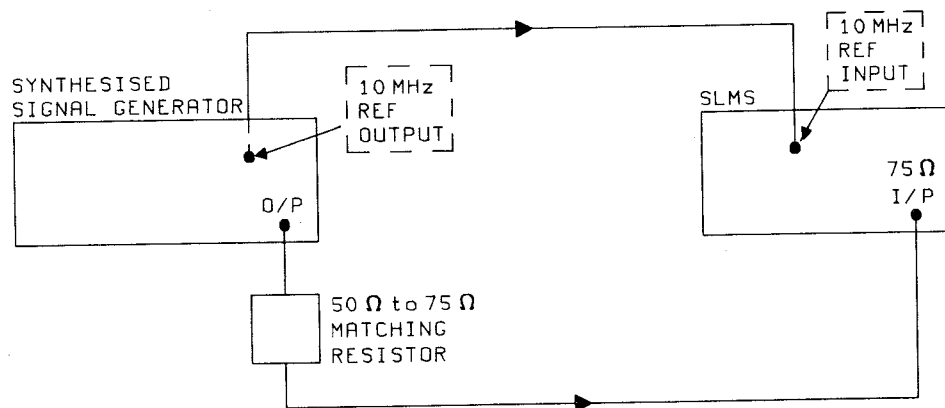

Figure 4-6 Image and IF Rejection Test Set-up
2. Connect up the equipment as shown in Figure 4-6.